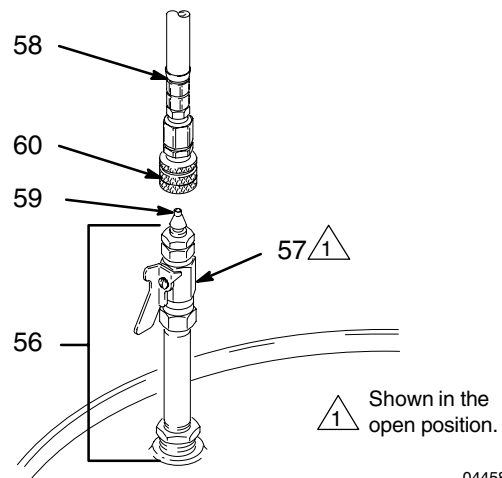

Fig. 14
1. Install the drum fittings (56) in the 3/4 in. vent port of the corresponding drum of fluid.
2. Close the shutoff valve (57) and connect the corresponding dry air hoses (58). Use only the special pin fitting (59) and coupler (60) to connect the dry air hoses to the drum fittings. Do not use additional lengths of dry air hose. See Fig. 14.